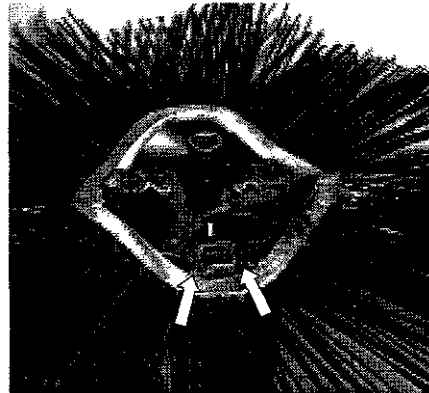

figure 24
- b. Slide the first section onto the core with the drive pins (figure 24) on both sides of tube 1. Make sure that the drive pins face up.